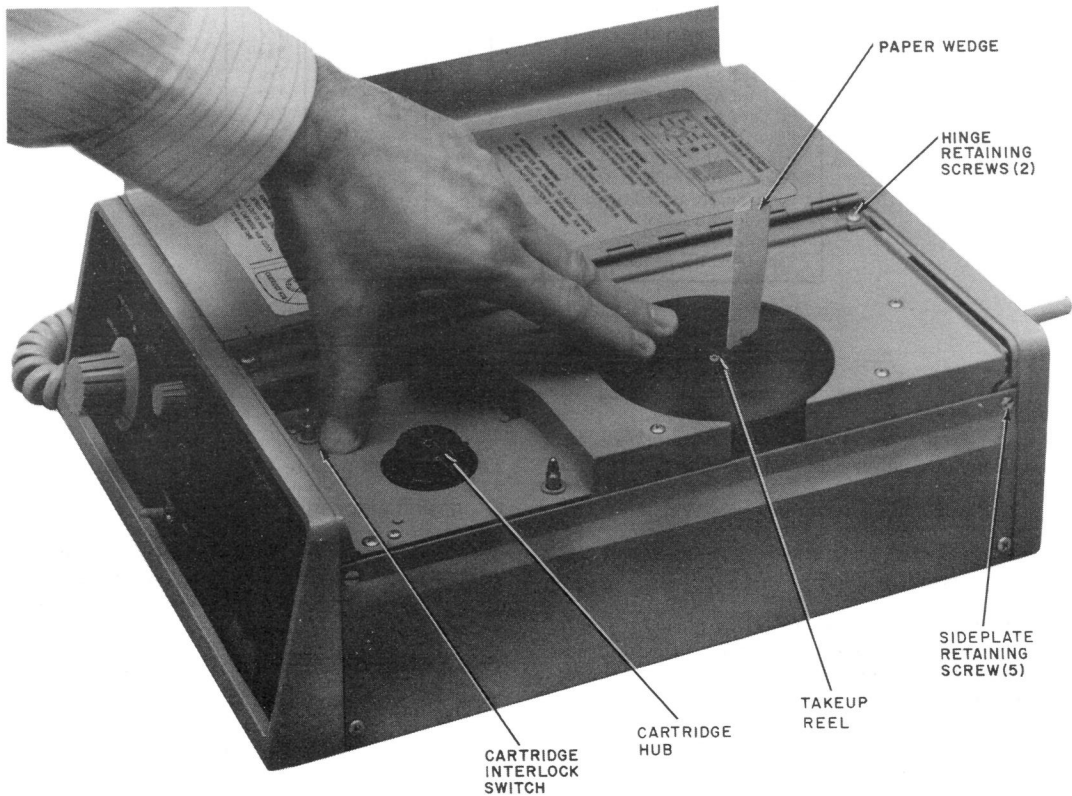
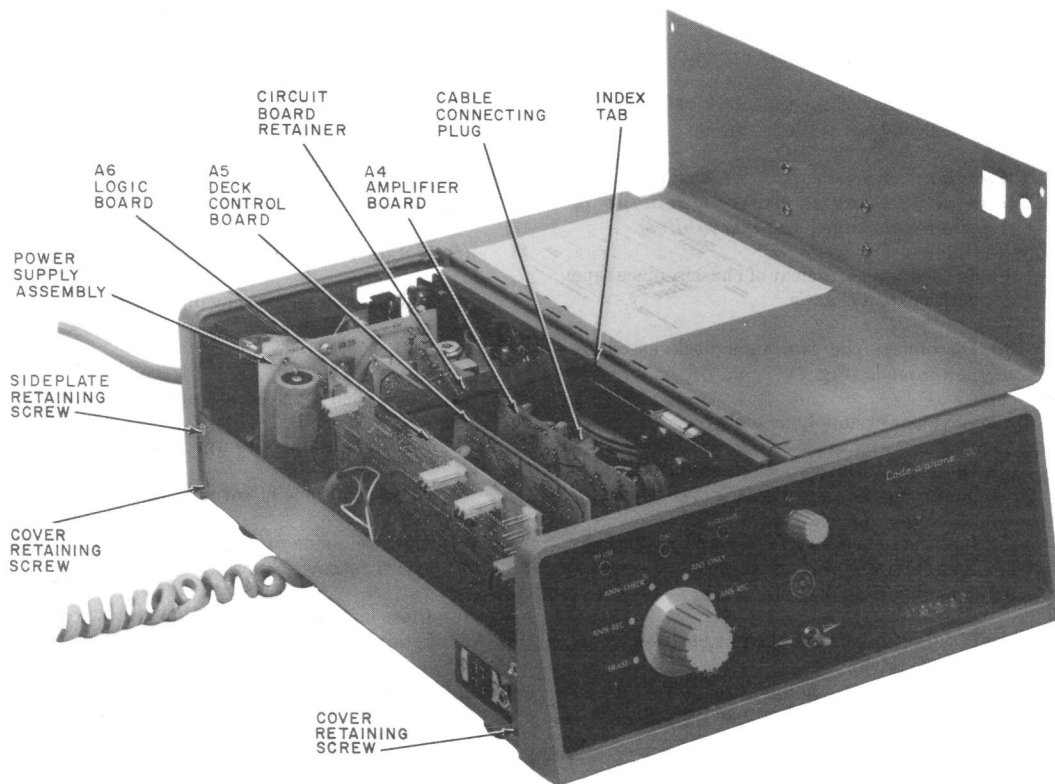

Fig. 3—Resetting "0" Registration on Message Indicator Dial
Fig. 4—Top Cover Removed, Internal View of Components
- (7) Remove power cord from ac outlet.
- (8) Check options for proper selection.
- (9) Check that A4, A5, and A6 circuit boards are properly installed.
- (10) Check that cable connecting plugs for power supply and tape deck (Fig. 7) on the interconnect board and the cable connecting plug on the A4 board (Fig. 4) are firmly in place.
- (11) Replace circuit board retainer, left side cover and reinsert ac power cord.
- (1) Manual method (Fig. 3).
- (2) Rapid rewind method (Fig. 3).
4.01 Plug-in Circuit Boards (A4, A5, and A6; Fig. 4).
(1) Remove top cover (Fig. 4).
- (d) Remove two hinge retaining screws (Fig. 3).
- (2) Remove tape deck.
- (a) Remove cable connecting plug for A4 circuit board (Fig. 4).
- (g) Install cable connecting plug for A4 (Fig. 4).
- (6) Install cover.
- (b) Install two hinge retaining screws (Fig. 3).
- (d) Open left side of cover and install circuit board retainer (Fig. 4).
- (3) To install cartridge (Fig. 3).
- (1) Broken or entangled message tape should be replaced with a new KS-19245, List 6 cartridge. If necessary reset message indicator dial to 0 (paragraph 3.01).
- (2) To recover recorded messages on broken tape, splice broken tape ends using splicing tape and tools obtained locally. After splicing tape, message indicator dial should be reset to 0. After messages are recovered tape cartridge should be replaced (paragraph 4.03).
- (a) Remove two cover retaining screws from left side (Fig. 4).
- (b) Lift cover and remove circuit board retainer (Fig. 4).
- (k) Replace the circuit board retainer making certain that all circuit boards are in the slots of the retainer and that the index tab of the retainer fits into the slot in the tape deck assembly (Fig. 4).
- (l) Close cover and install two retaining screws (Fig. 4).